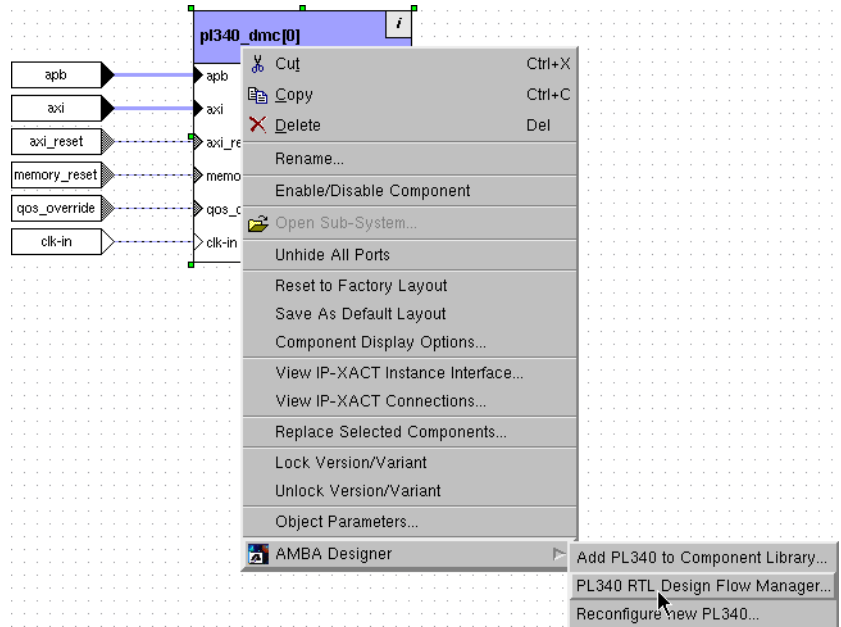

Figure 5-6 PL340 RTL Design Flow Manager selection
4. Select **AMBA Designer → PL340 RTL Design Flow Manager...** from the context menu, as Figure 5-6 on page 5-11 shows. This opens the RTL Design Flow Manager dialog box.